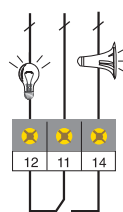

Figure 6 Function monitor installation
6. (VAL-MS-AR.../FM only) Connect monitoring circuit to green connector according to Figure 6. Strip 0.28 in. (7 mm) of insulation from each conductor before inserting into the appropriate position. Tighten wire clamp screws to 2 - 4 lbf-in. (0.25 Nm).